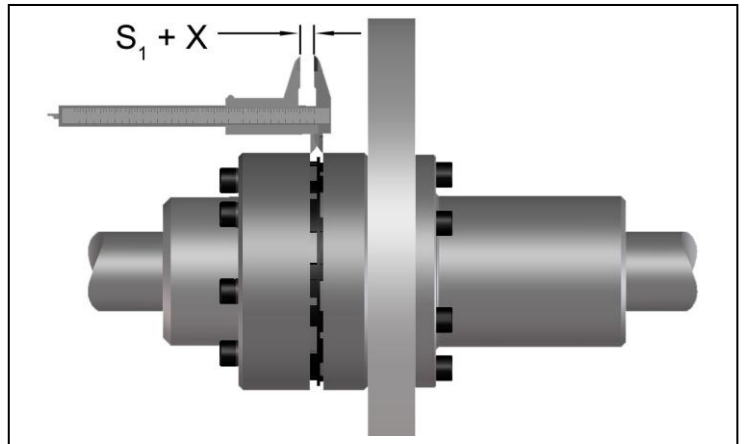

Fig. 8
- Measure the axial  $S_1$  gap measurement according to figure 8.